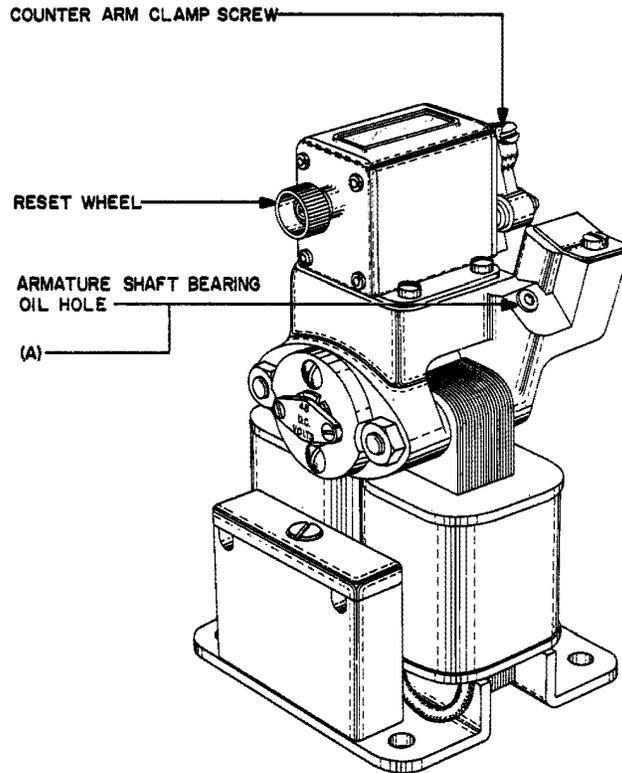

Fig. 3 — KS-7495 Magnetic Counter
(2) **Armature Shaft Bearing — Fig. 3(A):** Two drops of oil to the shaft bearing oil hole.